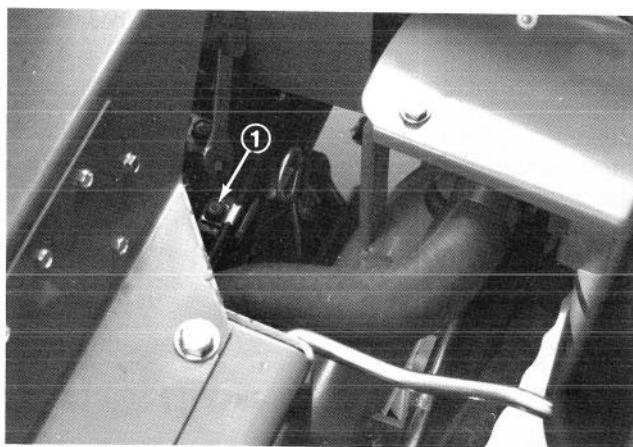

Figure 22
- 5. Using a 10 mm wrench, open the air bleed screw on the fuel injection pump (Fig. 22).